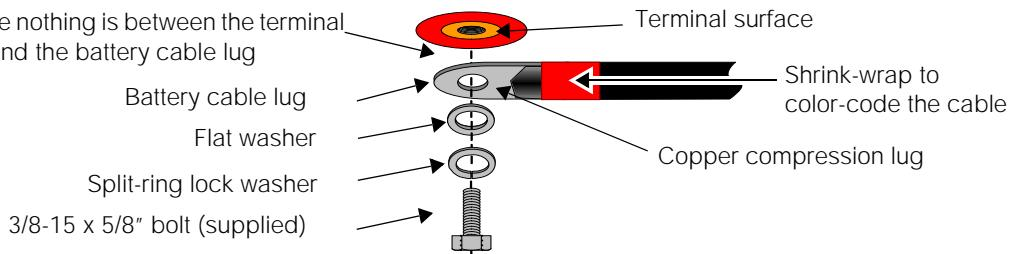

Figure 2-10 Battery Cable Connection
3. Connect one connector on the POSITIVE (+) cable to the POSITIVE DC terminal on the inverter/charger. Be careful to observe proper polarity. Figure 2-10 shows the proper stacking order of hardware. Use a wrench to tighten the bolt to the required torque.
5. Connect the NEGATIVE (-) battery cable to the NEGATIVE (-) DC terminal on the inverter/charger. Be careful to observe proper polarity. Figure 2-10 shows the proper stacking order of hardware. Use a wrench to tighten the bolt to the required torque.